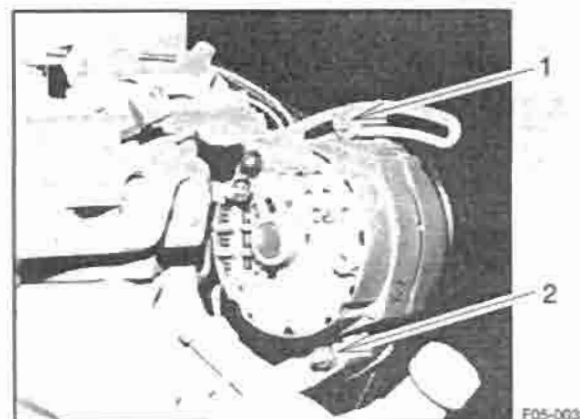

Figure 5-3. Drive belts.
5-12. DRIVE BELTS (Figure 5-3). Inspect drive belts for proper deflection. The belts deflection is correct when thumb pressure midway between pulleys deflects the belts 1/2 to 3/4 inch. To adjust belts loosen bolt (1) on the adjustment arm and loosen alternator pivot bolt (2). With proper leverage device position alternator so that 1/2 to 3/4 inch belt deflection is achieved. Tighten all bolts.